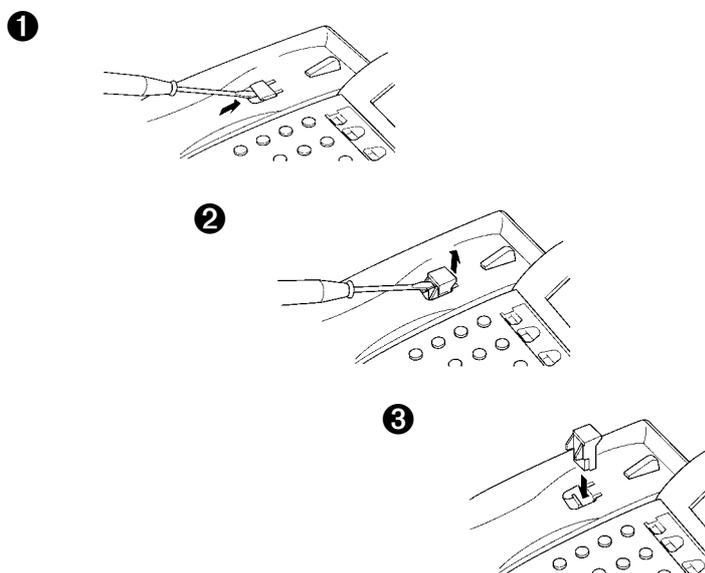

Figure 7-60 Positioning the Handset Hanger
2. Install it back in its original position so that the hanger protrudes providing a rest for the handset. (This procedure applies when using either the base unit or the WMU-UA Unit.) Refer to *Figure 7-60 Positioning the Handset Hanger* for the steps for removing and remounting the handset hanger.